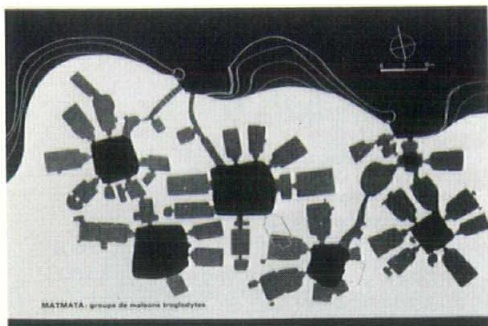

Figure 6
Underground Building. From the standpoint of thermal control, underground buildings have always been used to advantage in hot, dry climates. Examples include underground communities in China and desert habitations in North Africa (5). Figure 6 illustrates the sophistication that seemingly primitive architecture has attained. Troglodyte dwellings in Matmata, Tunisia, are arranged around community spaces that are open pits, from which two levels of cavelike rooms radiate, in some cases, two and three rooms deep, with each successive space showing a noticeably different temperature. In summer, when temperatures at the surface reach 125 degrees F. during the day, the earth still retains the cooling temperatures of the winter season. In winter, the ground's heat reaches the rooms, in effect after a six-month time lag. The advantages of using the ground as an insulator to moderate the extreme variations of temperature at the surface has been